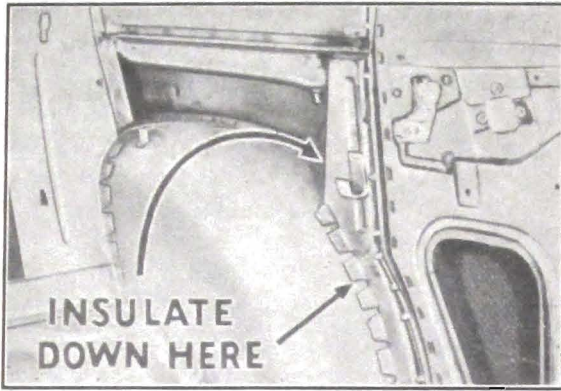

Fig. 1-127. On sedans install rock wool or batting inside of pillar as indicated by arrow.
- Figs. 1-127 to 1-130 show how this is